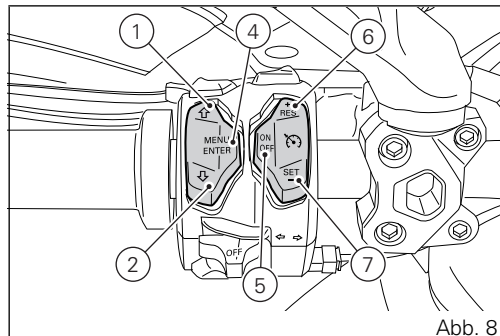

Abb. 8
6) CRUISE CONTROL-TASTE – RES (Resume) / + (more) (Abb. 8)
7) CRUISE CONTROL-TASTE – SET (Setup) / - (less) (Abb. 8)